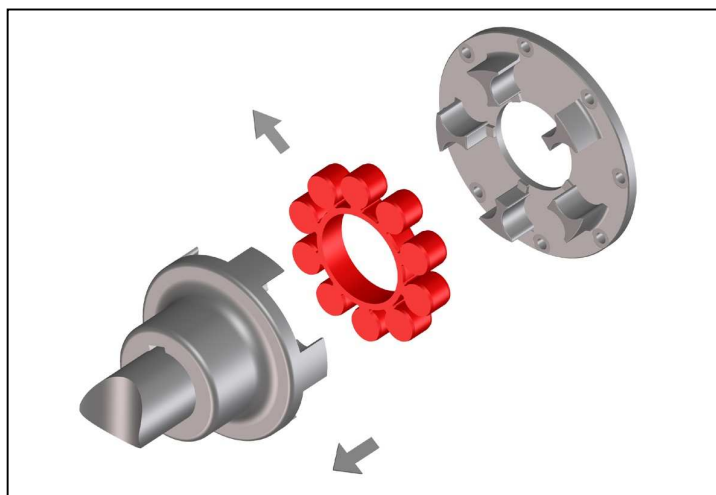

Fig. 10
- Push back one of the coupling halves (Fig. 10).